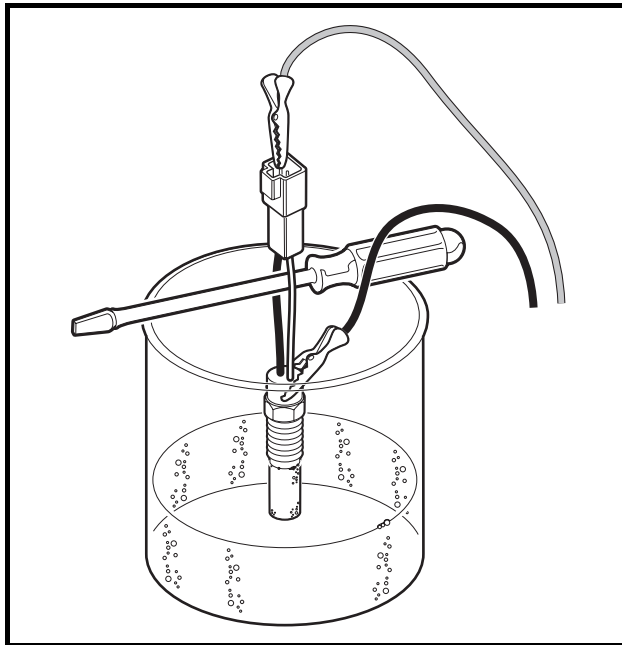

Figure 11b-18 Fan Thermostat Switch Test Setup
- 5.6. Fill the kitchen pot with water so that approximately half of the thermostat housing is submerged as shown (**Figure 11b-18, Page 11b-22**).